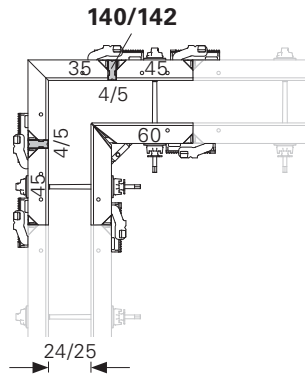

Fig. D2.04
- Wall thickness 24 / 25: Fig. D2.04 + D1.06a/c + D2.06b/d